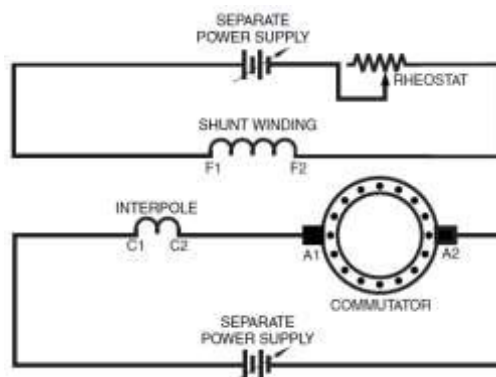

Figure 6: A separately-excited DC shunt motor diagram
1. Unwire the previous circuit, and reconnect the wires into the following connections to be a separately-excited DC shunt motor, as shown in Figure 6. Notice that two DC power supplies is now needed.